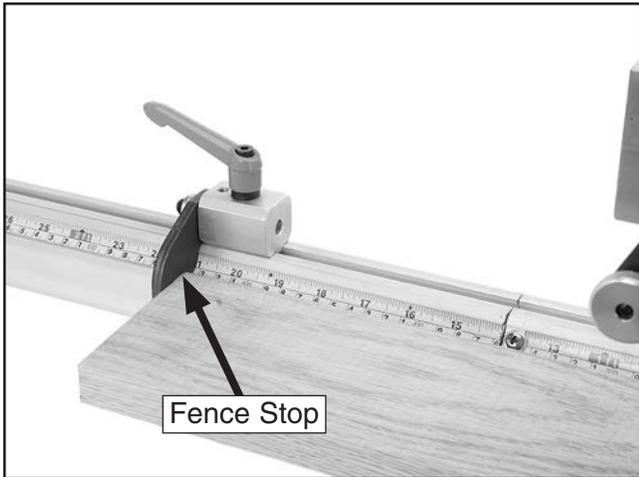

Figure 25. Longitudinal fence stop.
4. Use the longitudinal fence stops (**Figure 25**) to preserve the starting point when drilling workpieces that are the same length.